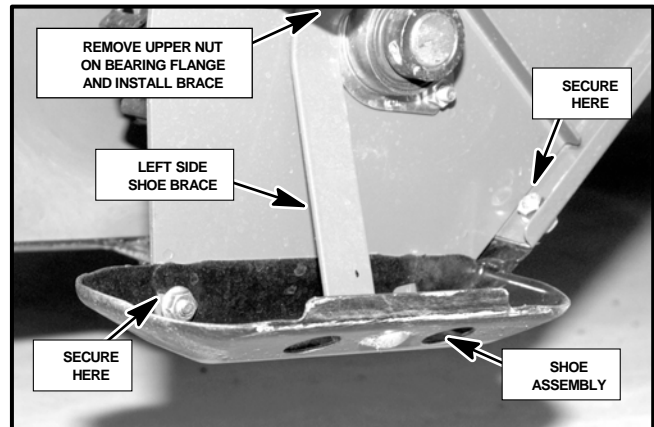
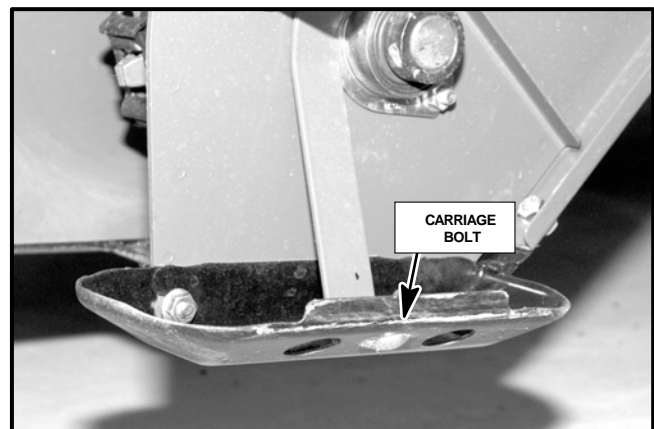

Figure 38
Figure 39
- Locate the two (2) shoe braces (Part No. 832391, left brace and Part No. 832392 right brace) and the shoe assembly (Part No. 887963) from the Accessory Kit.
- Remove the nut from the upper mounting hole on the bearing at the lower left of the elevator (See Fig. 38).
- Attach the shoe assembly to the bottom of the elevator securing it with four (4) 5/8-18 x 5/8 screws (Part No. 306555) and 5/8-18 flangelock nuts (Part No. 548911). **DO NOT** tighten hardware at this time.
- Locate the two (2) 5/16-18 x 3/4 carriage bolts (Part No. 800358) and two (2) flangelock nuts (Part No. 548911) from the Accessory Kit.
- Insert the carriage bolt from the bottom side of the shoe through the shoe brace mounting hole as shown in Figure 39. Secure with the flangelock nuts.
1. Install the windrow (blade) assembly onto the push tube. Slide the windrow assembly onto the push tube pivot pin as shown in Figure 39. Secure using one (1) hair pin (Part No. 809265) from the Accessory Kit.